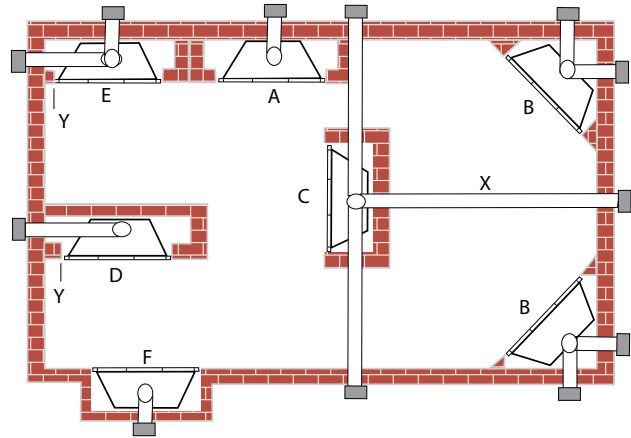

Figure 3 - Possible Fireplace Locations
- This fireplace may be installed along a wall, across a corner, or use an exterior chase. Refer to *Figure 3* for suggested locations.